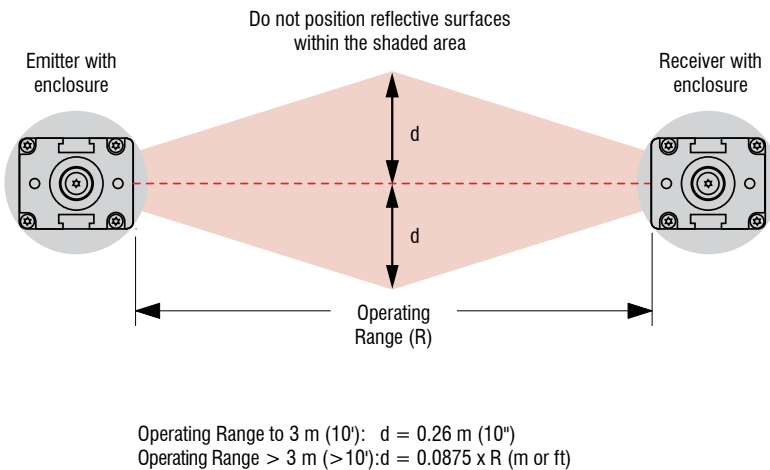

Figure 2. Adjacent reflective surfaces
A reflective surface located adjacent to the defined area may deflect one or more beams around an object in the defined area. In the worst case, an “optical short circuit” may occur, allowing an object to pass undetected through the defined area (see Figure 2).
- **If possible, relocate the sensors** to move the beams away from the reflective surface(s), being careful to maintain adequate separation distance (see Figure 2).
It is important to note that using these tubular enclosures will increase (effectively double) the distance “d” shown in Figure 2. The curved surfaces increase the potential angle of the beams. Calculate the position of the emitter and receiver based on the formula shown in Figure 2 (in addition to the separation distance information presented in the EZ-SCREEN manual).